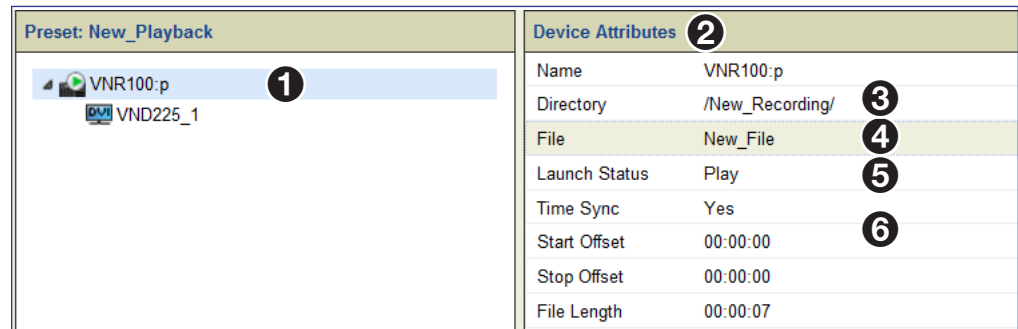

Figure 104. Preset for Playing a Channel
2. In the **Preset** panel, select the player (see figure 104, **1**).
- 3. Click in the **Directory** field of the **Device Attribute** panel, then click the drop-down button at the right hand side of the **Directory** field (see figure 104, ❶).